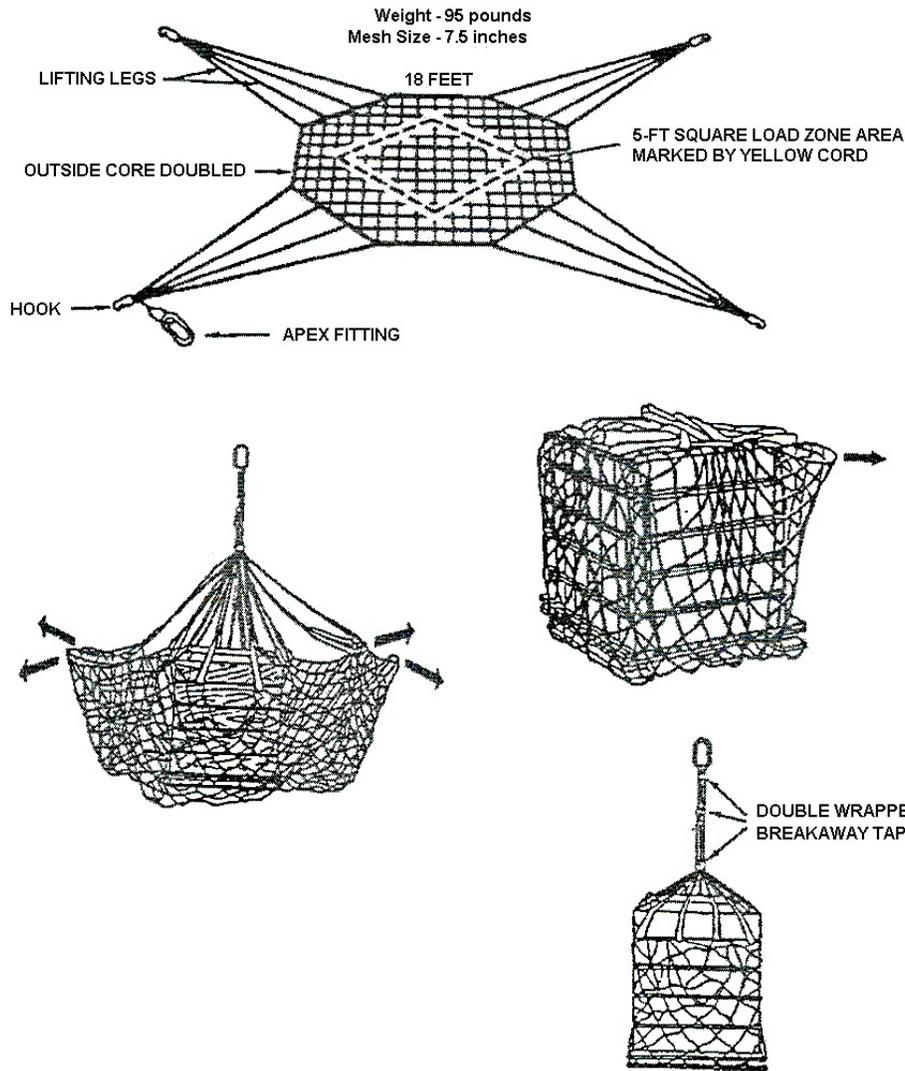

Figure 3-116
2. Make a final inspection of the apex fitting, netting, and taping before hookup to the aircraft, ensuring the net and load is secure (see Figure 3-116).